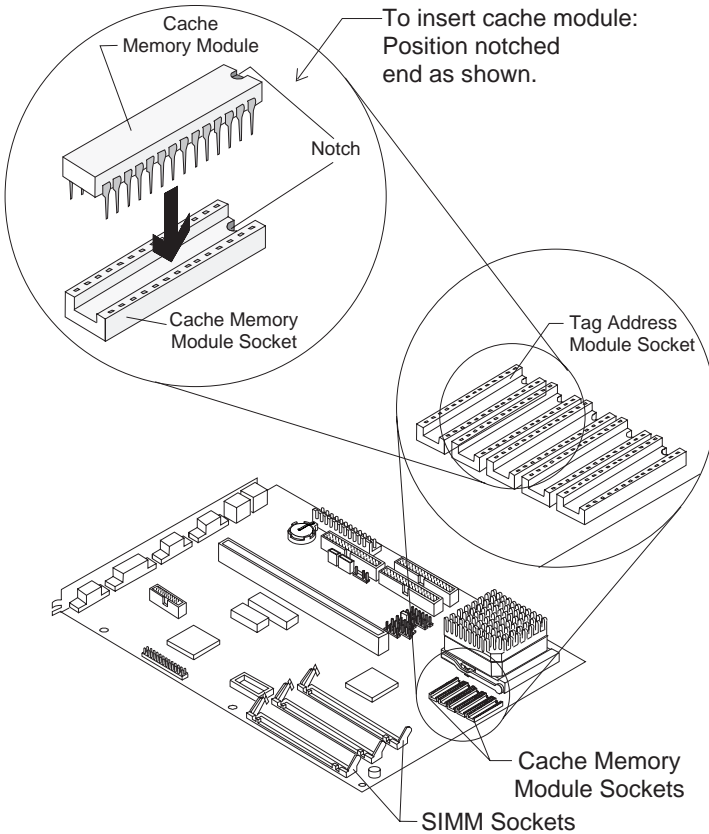

Figure 4-13. Cache Memory Modules - Type I-1
1. Locate cache memory module connectors U28 - U32 on the system board (see Figure 4-13 on page 4-14).